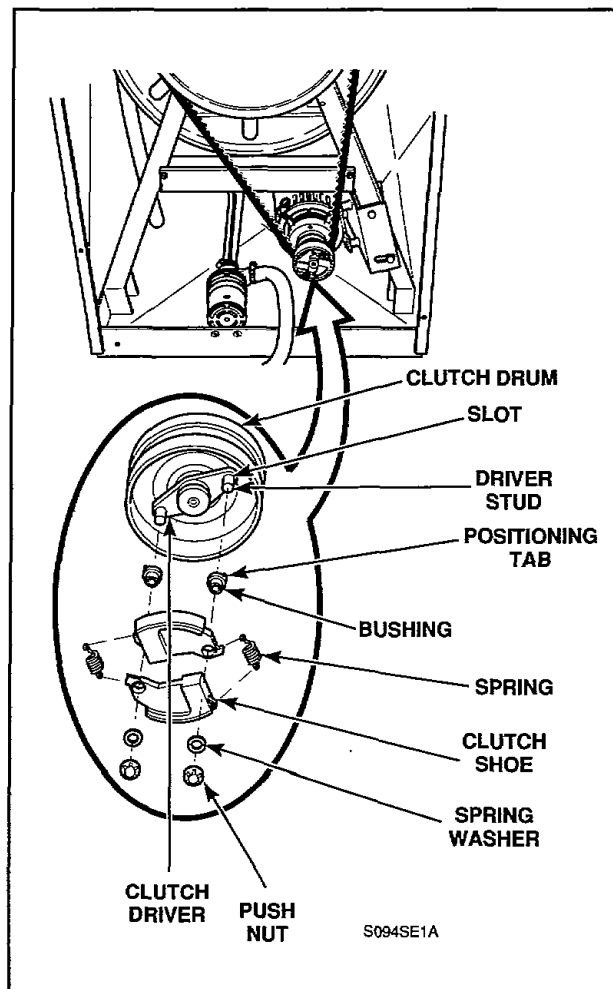

Figure 37
29. NO. 355P3 CLUTCH REPAIR KIT (Refer to *Figure 37*)
NOTE: See *Figure 37* for clutch shoe assembly sequence. Arrows must be facing out on shoes, and pointing in direction of spin.